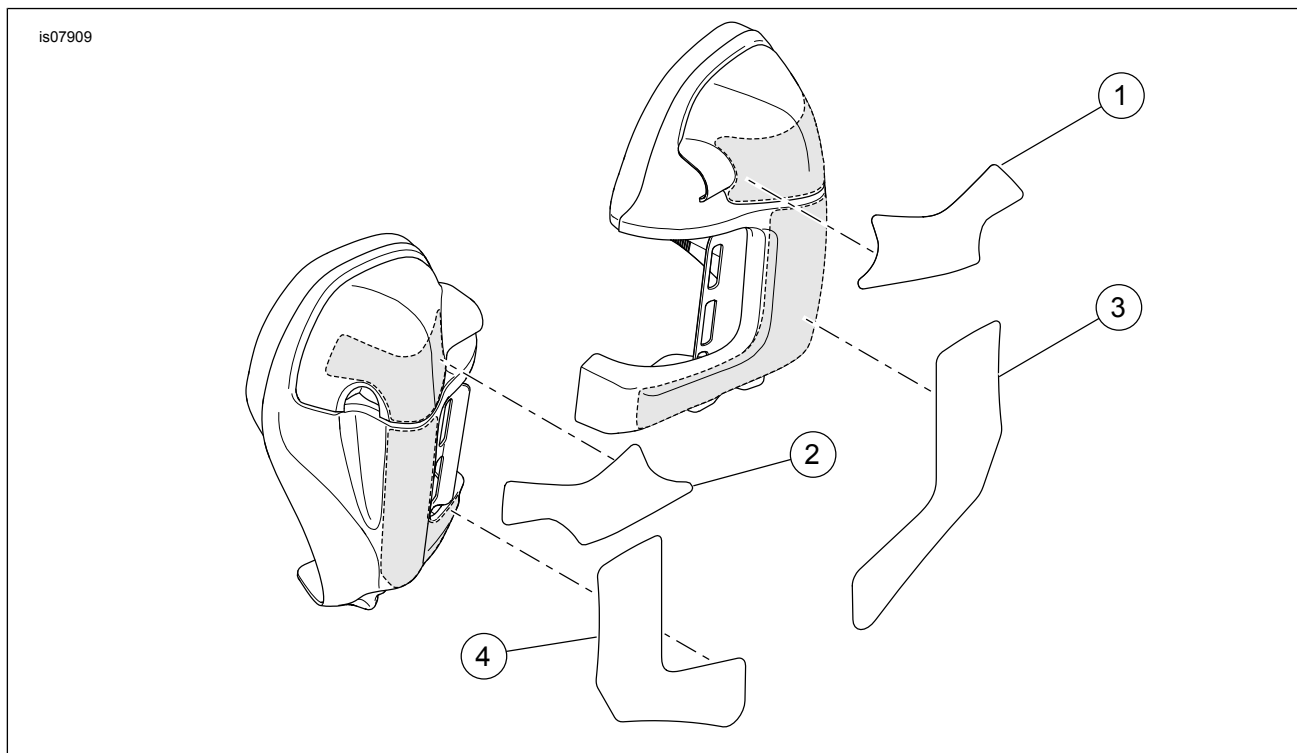

Figure 1. Service Parts: Paint Guard Kit
See Figure 1 and Table 1.
2. See Figure 1. Wash all mounting areas thoroughly. Allow to dry completely.
- See Figure 1. Identify each paint guard piece and its mounting location before proceeding.
2. See Figure 1. For cap, align the paint guard with the inside edge. For lower, align the paint guard with the top edge.